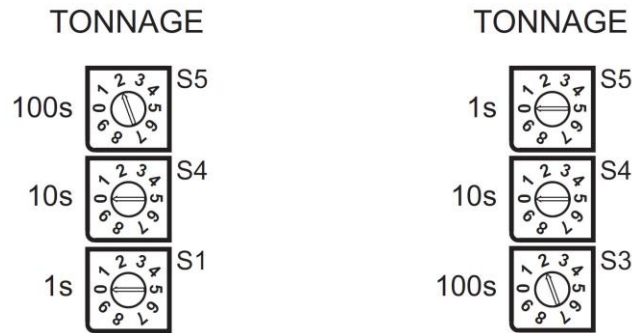

Figure 3-18. Tonnage Dial Indicators: Old-style Board (Left), New-style Board (Right)
8. Each dial indicator has an arrow you can turn, using a small screwdriver, to the numerical setting you want. The indicator labelled “100s” represents the hundreds position in the full-scale tonnage setting, the indicator labelled “10s” represents the tens position, and the indicator labelled “1s” represents the ones position. To set full-scale tonnage to 200, for example, as illustrated in Figure 3-18, you would turn the “100s” indicator to “2,” and turn the “10s” and “1s” indicators to “0.”